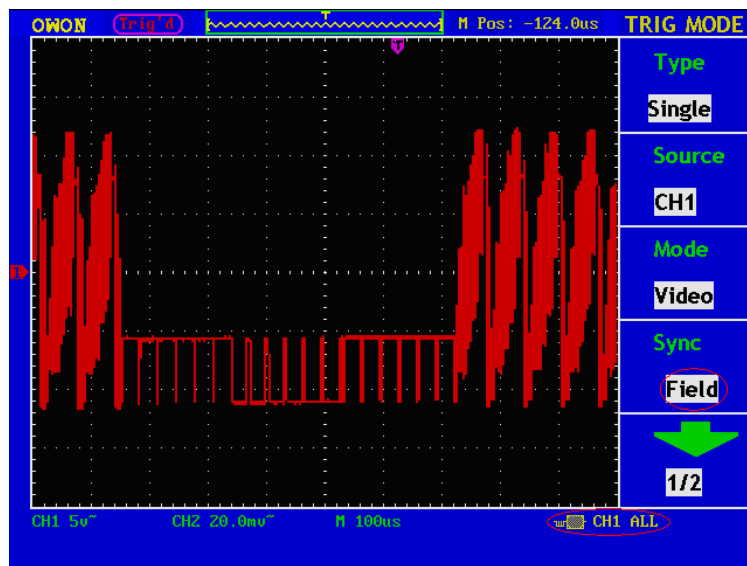

Fig.6-7 Wave Form Obtained from Video Field Trigger
6. Adjust the **VOLTS/DIV**, **VERTICAL POSITION** and **SEC/DIV** rotary controls to obtain a proper wave form display (see Fig.6-7).